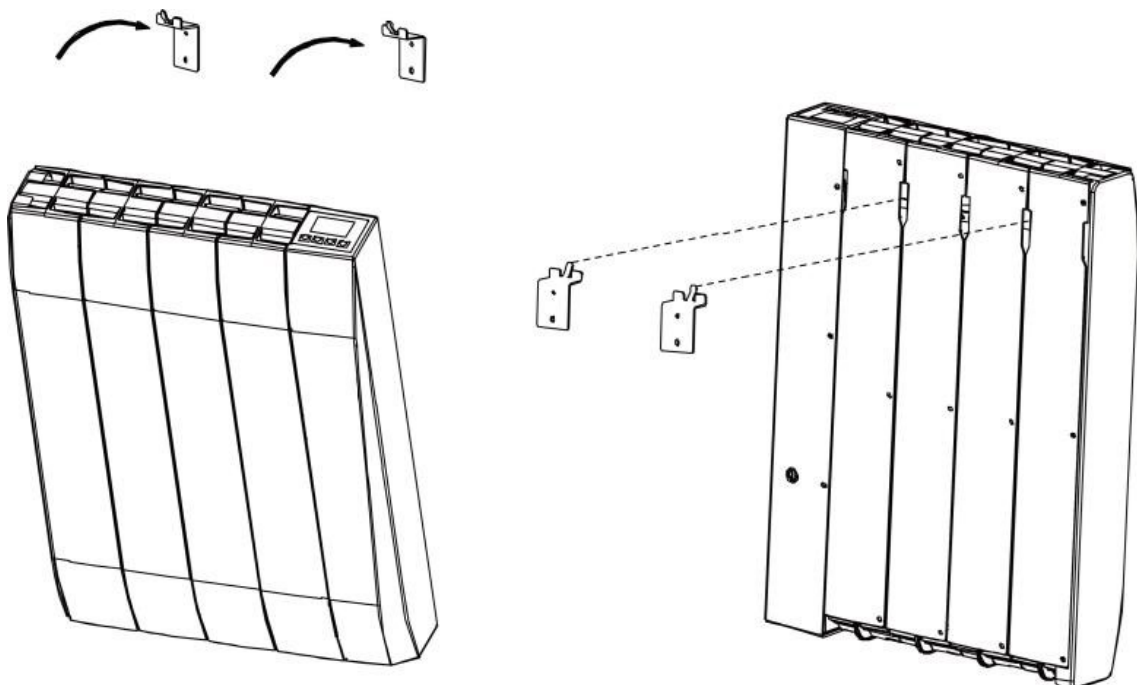

Figure 6: Fitting brackets onto the radiator
9. Lift the unit and slide the upper brackets into the 2 holes between the end panels (**Figure 6**).